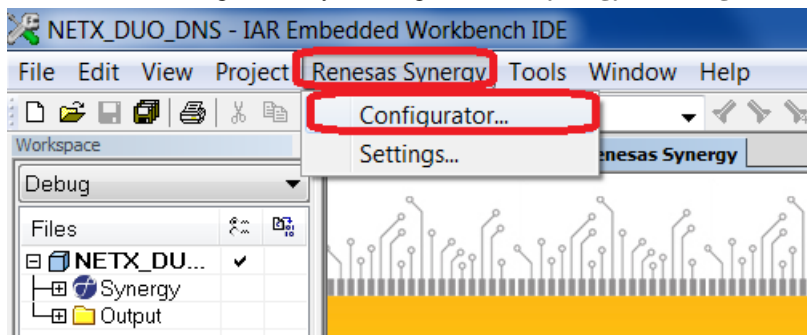

Figure 1.8 Synergy™ Standalone Configurator
3. Open the Synergy™ Standalone Configurator, by clicking **Renesas Synergy > Configurator**. See Figure 1.8.